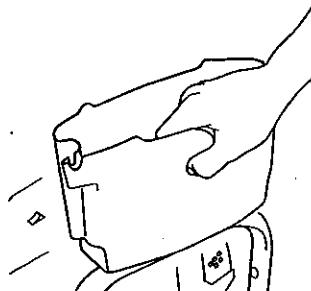

Fig 2
1. Rest storage bucket on top of the frame as shown in Fig 2.